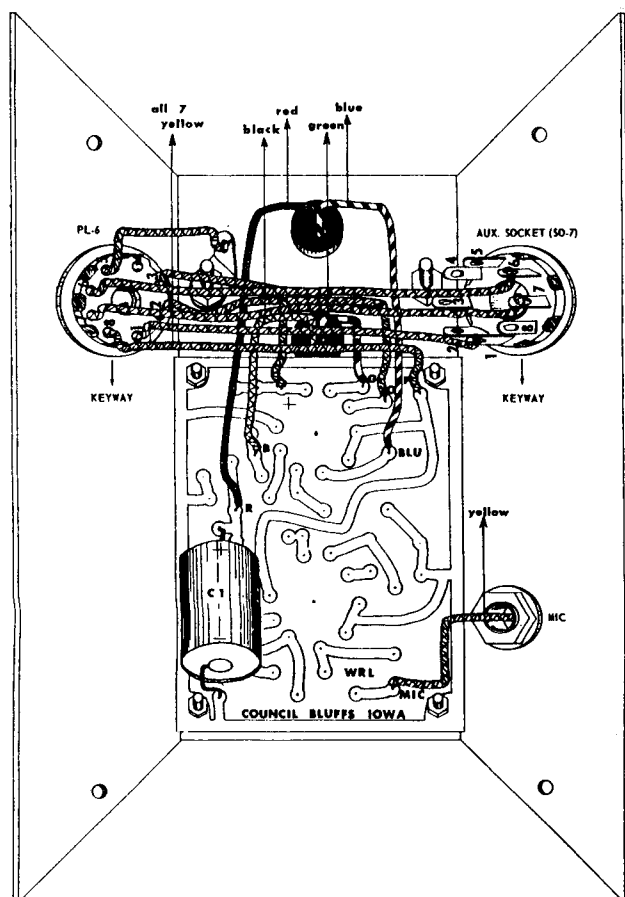

Figure 1. Parts Mounting And Wiring on Chassis.
- ☐ 1. One side of the chassis has a large hole and a small hole in it. Mount the microphone connector (mic) in the small hole and the octal socket (SO-7) in the large hole. Position the socket as in Figure 1, with the keyway pointing toward the microphone connector.
- ☐ 2. Mount the octal plug (PL-6) in the large hole on the opposite side of the chassis. Position the plug so its keyway points the same way as the octal socket (SO-7), as shown in Figure 1.
- ☐ 5. Mount the transformer on top of the chassis, bringing the green and black leads through the grommet nearest the center of the chassis, and the red and blue leads through the other grommet. (See Fig. 1 for correct lead placement.) Use 6-32 screws and nuts to mount the transformer, with a lock-washer under the nut nearest the octal socket (SO-7) and a ground lug under the nut nearest the octal plug (PL-6).
- ☐ 26. Find the holes marked 8/450. The 8 mfd at 450 volt electrolytic condenser (C-1) mounts in these holes, but it mounts underneath the board as in Fig. 1. Mount this condenser so that the MINUS end (the silver-colored end) is closest to the end of the board and the PLUS end (brown end) is closest to the center of the board. (S).
- ☐ 27. The printed circuit board may now be mounted in the chassis, using the 4 long screws, the 4 metal standoffs, and 4 nuts. The easiest way to do this is to set the chassis rightside up, put the screws in the holes, and then secure the screw heads with tape (scotch tape, adhesive tape, electrical tape, etc.—anything that will hold the screws in place for a few minutes without marking the chassis.) Then turn the chassis upside down, drop a metal standoff on each screw, and put the printed circuit board on the screws as in Fig. 1. Then put the nuts on the screws. Tighten the nuts securely enough to hold solidly, but be sure not to over-